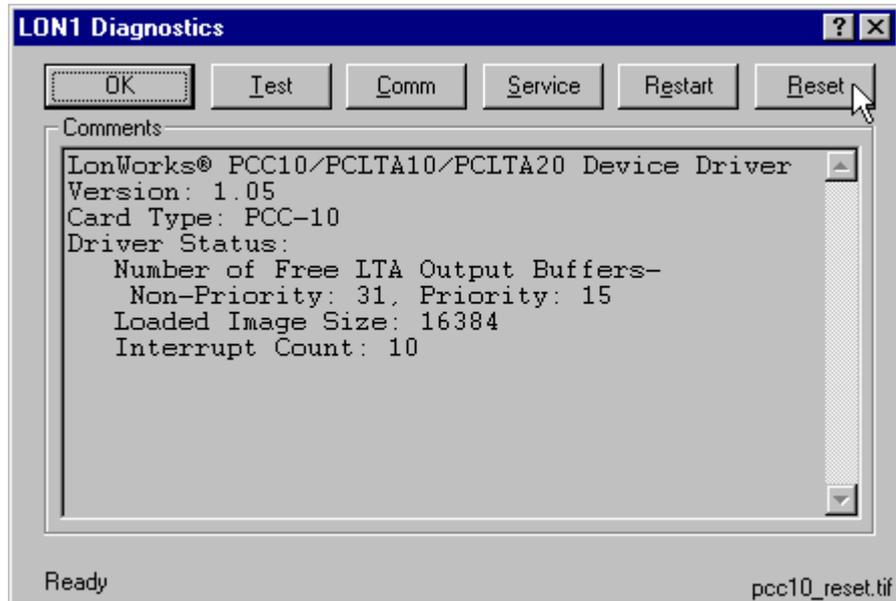

Fig. 4.6.5.2.-3 Some basic diagnostics information available indicating that the device driver has started and can be configured
14. On the LonWorks® Plug'n Play control panel (Figure 4.6.5.2.-1 above), click the Diagnostics... button to open the Diagnostics dialog box shown below.